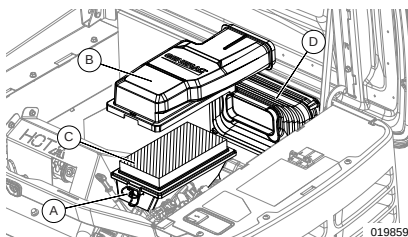

Figure 4-2. Servicing Air Cleaner
5. See Figure 4-2. Remove cover clips (A) and air cleaner cover (B).